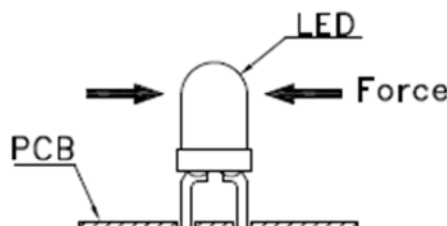

Fig. 9
6. After soldering or other high-temperature assembly, allow the LED to cool down to 50°C before applying outside force (Fig.9). In general, avoid placing excess force on the LED to avoid damage. For any questions please consult with LIGHT representative for proper handling procedures.